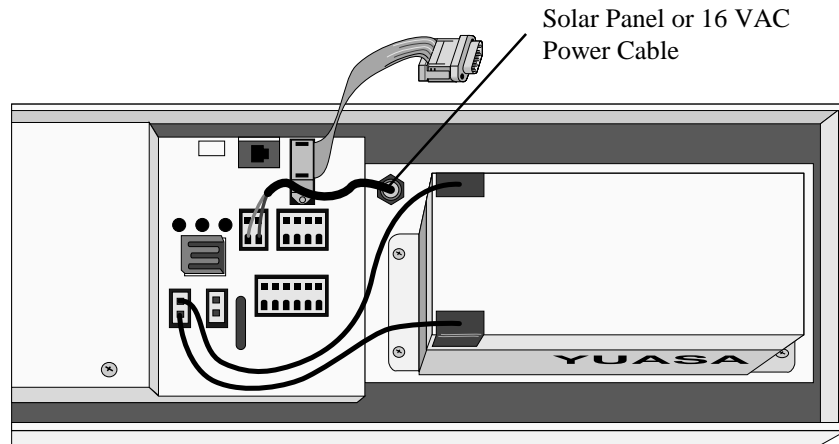

FIGURE 3.1-1. Rechargeable Power Mounting and Connections
- a) Sealed Rechargeable Battery Option: Install the kit as shown in Figure 3.1-1. An unregulated solar panel or 17 to 24 VAC must be used with the rechargeable battery at all times. In either case, power is routed through the Heyco fitting on the enclosure back and connected to the CHG ports by depressing connector levers. Polarity of the CHG connection does not matter. Install the rechargeable battery and plug the battery lead into the connector labeled "LA".